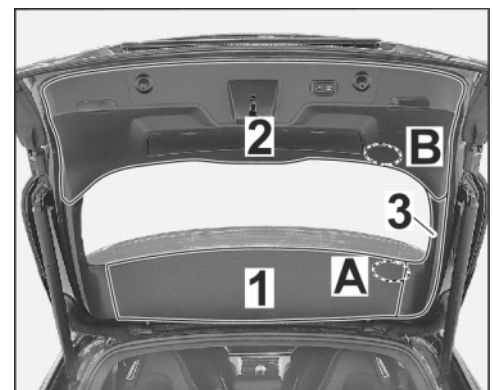

Figure 5 (Sport Turismo)
1.3 Rear lid area (\Rightarrow *Figure 5 (Sport Turismo)*)
1.3.1 Remove trim panel for center window frame (\Rightarrow *Figure 5 (Sport Turismo) -1-*). \Rightarrow *Workshop Manual '709219 Removing and installing trim panel for rear lid'*
- Remove trim panel for rear lid, bottom. ⇒ *Figure 5 (Sport Turismo) -2-*
- Remove trim panel for center window frame. ⇒ *Figure 5 (Sport Turismo) -3-*